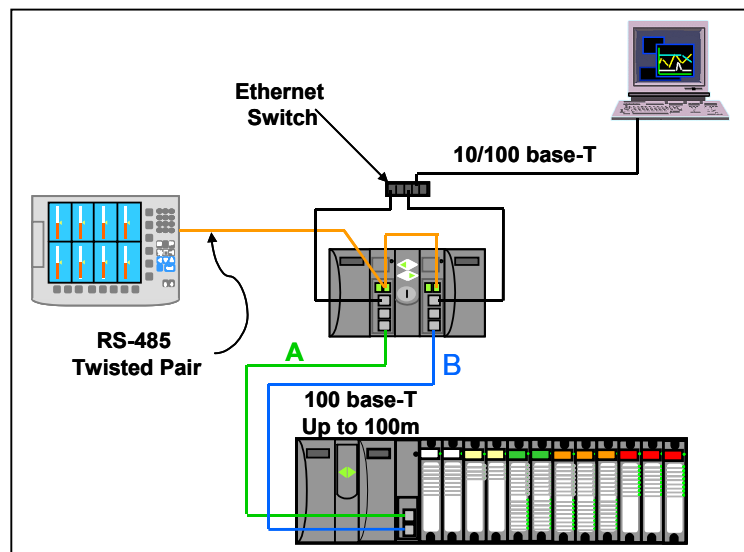

Figure 3 Ethernet switch with redundant controller
- Requires Honeywell (PN 50008930-001) or commercially available industrial switches, routers, etc for 10/100-baseT connection to the host/peer network. See **Figure 3**.